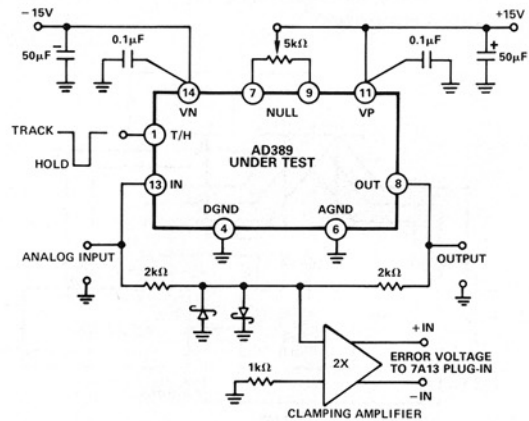
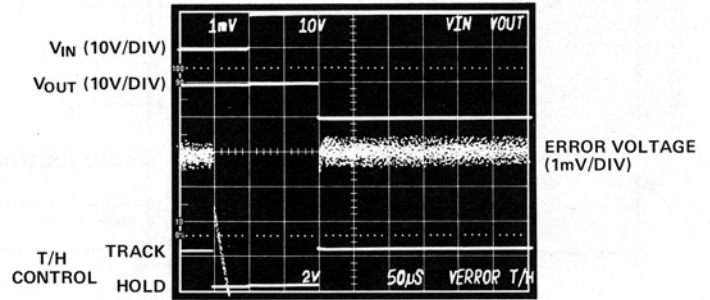

Figure 8. Pedestal and Acquisition Time Test Circuit
Figure 11a. Acquisition Time after 100 $\mu$ s in the Hold Mode. The AD389 Shows no "Thermal Tail".
*Thermal Tail* is the slow drift of the output stage as it settles to the final value with a thermally induced offset due to self-heating; see Figures 11a and 11b.
Minimal thermal tail effects are another requirement of high resolution applications. The self-heating errors induced by the changing current levels in the output stages of T/H amps may cause more than 1LSB of error due to thermal tail effects. The performance of a typical AD389 in contrast to a typical 12-bit T/H circuit is shown in Figures 11a. and 11b. The test circuit is shown in Figure 8.